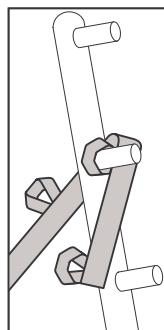

Figure 4
2. Attach the sling to the attachment point from the outside of the stand assist. **Figure 4.**